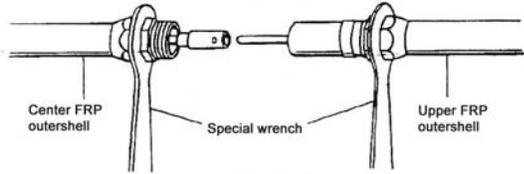

Fig. 1
- Put special wrenches on upper and center FRP outershells as shown in Fig. 1. Use small diameter section of the wrench.